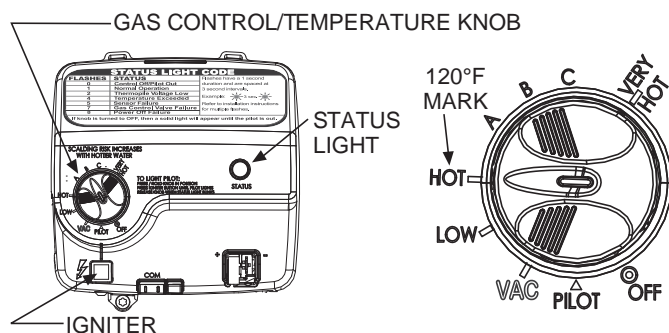

FIGURE 19A.
**HOTTER WATER CAN SCALD:** Water heaters are intended to produce hot water. Water heated to a temperature which will satisfy space heating, clothes washing, dish washing, and other sanitizing needs can scald and permanently injure you upon contact. Some people are more likely to be permanently injured by hot water than others. These include the elderly, children, the infirm, or physically/mentally handicapped. If anyone using hot water in your home fits into one of these groups or if there is a local code or state law requiring a certain temperature water at the hot water tap, then you must take special precautions. In addition to using the lowest possible temperature setting that satisfies your hot water needs, a means such as a mixing valve should be used at the hot water taps used by these people or at the water heater. Mixing valves are available at plumbing supply or hardware stores. See Figure 14. Follow manufacturer's instructions for installation of the valves. Before changing the factory setting on the thermostat, see Figure 19A. Using the lowest hot water temperature that meets your needs will also provide the most energy efficient operation of the water heater.
The thermostat is adjusted to the pilot position when it is shipped from the factory. Water temperature can be regulated by moving the temperature dial to the preferred setting. The preferred starting point is 120°F at the "HOT" setting. Align the knob with the desired water temperature as shown in Figure 19A. There is a hot water scald potential if the thermostat is set too high.